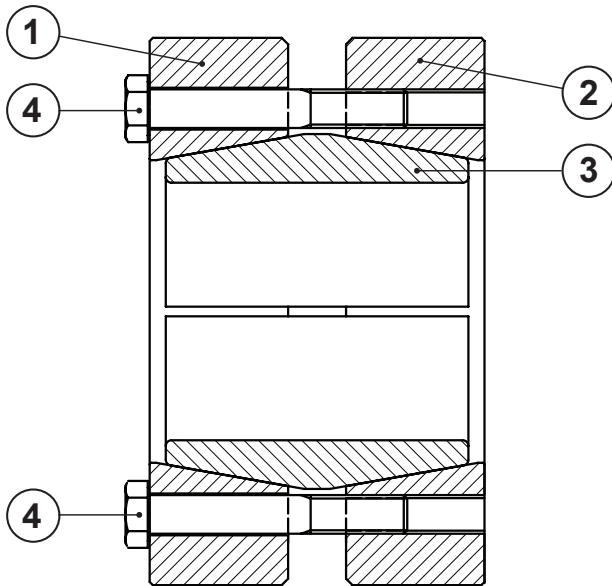

Figure 1
### INSTALLATION (Refer to Figure 1)
### REMOVAL (Refer to Figure 1)
**DO NOT** completely remove locking screws (4) before outer collars (1, 2) are disengaged from inner ring (3). A sudden release of the outer collars involves high separating forces and could result in permanent injury or death. Be certain that outer collars are disengaged from inner ring before completely removing locking screws. Refer to Figure 1.